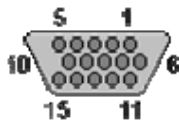

Figure 4-29: VGA Connector
- CN Pinouts: See **Figure 4-29** and **Table 4-28**